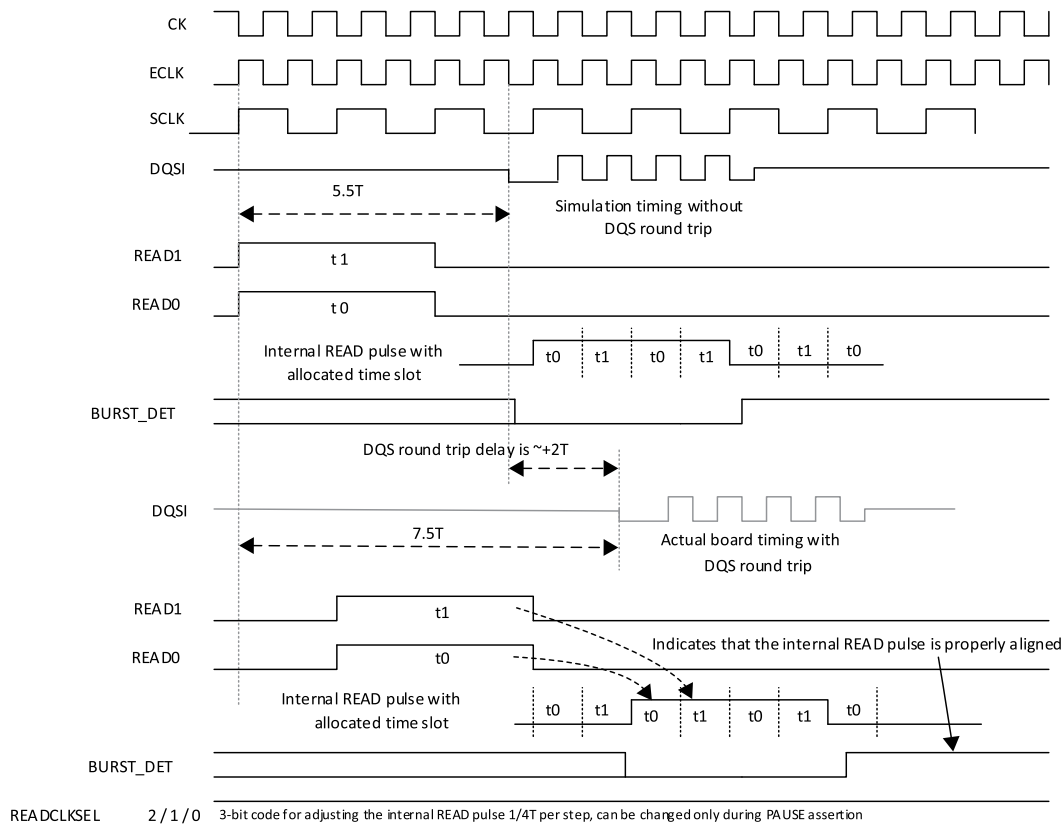

Figure 6.7. READ Signal Training Process
1. The memory controller sets READ1/0 to an initial position before starting the read pulse training. READ1/0 must be asserted for the number of SCLK cycles that is equal to one-fourth of the current read burst length, as listed in Table 6.3. Each READ bit (READ1 or READ0) in the system clock domain is translated to a 1T time slot of the memory clock domain, as shown in Figure 6.7.
3. To shift the READ pulse timing window, READ1/0 can be moved to the next cycle. If a READ bit is asserted in the next cycle while the other READ bit remains in the current cycle, only the corresponding time slot on the READ pulse moves to the next allotted slot. Therefore, only READ0 must be moved to the next cycle, if the READ pulse needs to be shifted only by 1T. However, if only READ1 is moved to the next SCLK cycle, then the READ pulse gets two short pulses in wrong timing. Since READCLKSEL2/1/0 covers a whole 2T timing, it is recommended that both READ1 and READ0 be moved to the next cycle together to shift the READ pulse to the next 2T window as the example shown in Figure 6.7.
Figure 6.7 shows an example of a burst length 8 (BL8) read operation. The bottom side of the diagram indicates the case that the incoming DQS (DQSI) gets slightly more than 2T delay after a round trip. Due to this round trip delay, both READ1 and READ0 need to be shifted to the next SCLK cycle so that the internal READ pulse gets a 2T shift. Then, the READCLKSEL2/1/0 signals can be used to fine-tune the READ signal position throughout the training process. When any of READCLKSEL2/1/0 is changed at any time after a system reset, the PAUSE input to DQSBUFM must be asserted before 4T of the change and remain asserted for another 4T after the change to avoid glitches and malfunction.